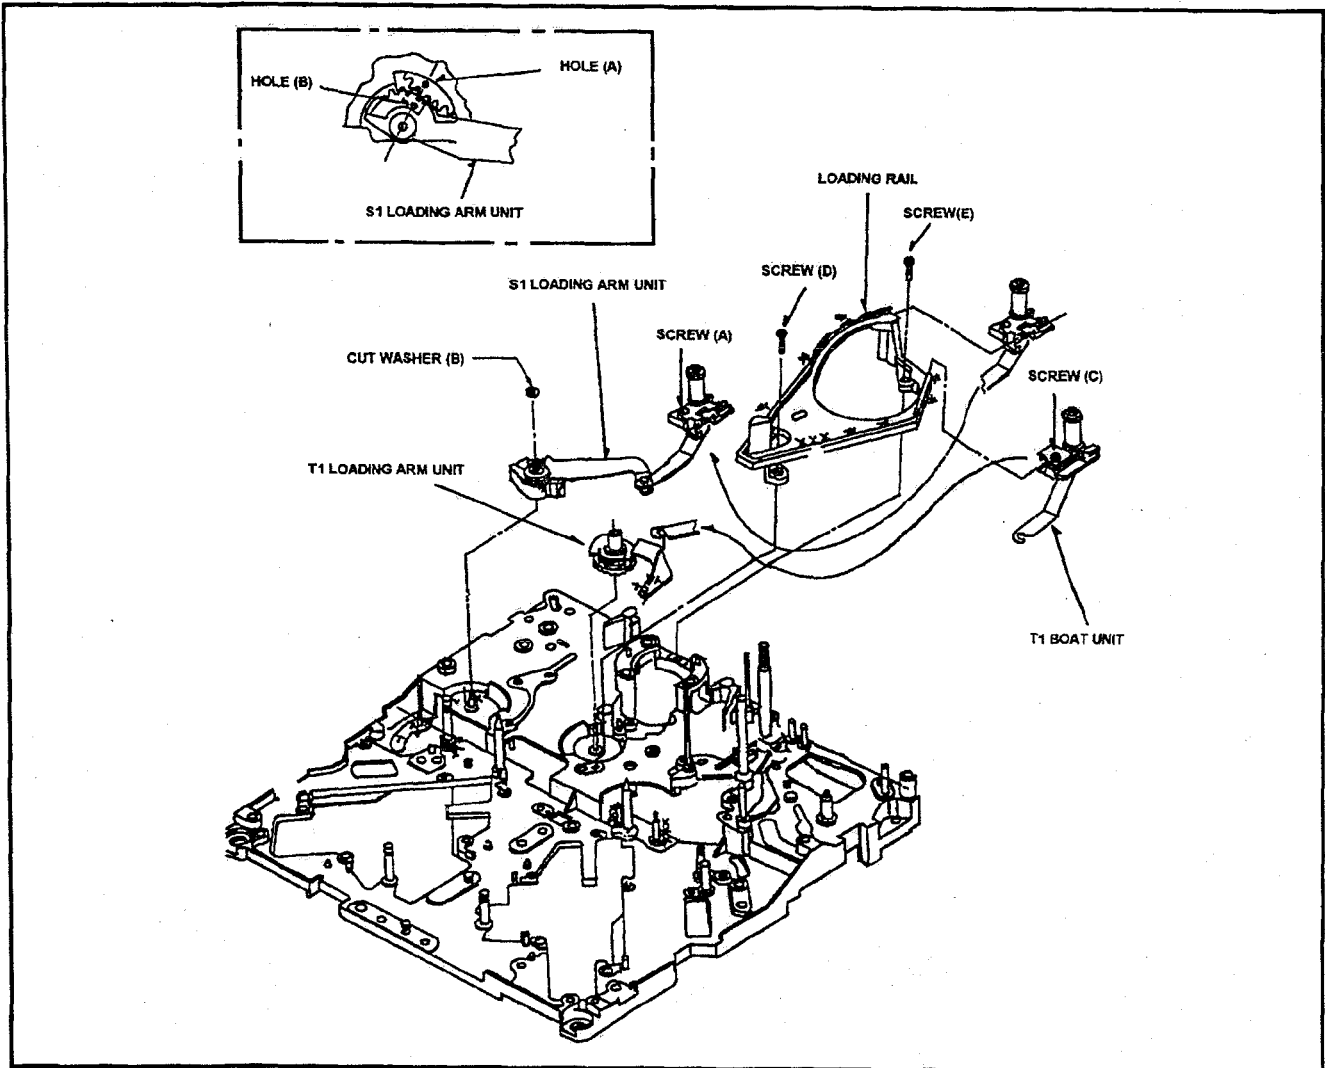

Fig. M16
4. Turn the Emergency Gear until middle loading position and unscrew the screw (D),(E) as shown in Figure M16.
5. Remove the S5 Stopper Base and the Tension Arm Unit (Refer to item 14 & 15).
6. Unscrew the screw (A) and remove S1 Post from the Loading Rail as shown in Figure M16.
7. Remove the Cut Washer (B) and remove the S1 Loading Arm Unit as shown in Figure M16.
8. Unscrew the screws (C), and remove the T1 Post from Loading Rail as shown in Figure M16.
9. Remove the T1 Boat Unit from T1 Loading Arm Unit as shown in Figure M16.
1. Adjust S1 Post Loading Arm Unit so that the hole (A) should match hole (B) as shown in Figure M16.